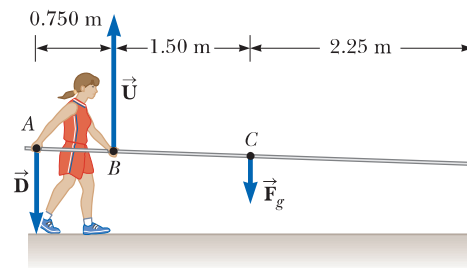

Figure P12.12
- 12.** A vaulter holds a 29.4-N pole in equilibrium by exerting an upward force \vec{U} with her leading hand and a downward force \vec{D} with her trailing hand as shown in Figure P12.12. Point C is the center of gravity of the pole. What are the magnitudes of (a) \vec{U} and (b) \vec{D} ?